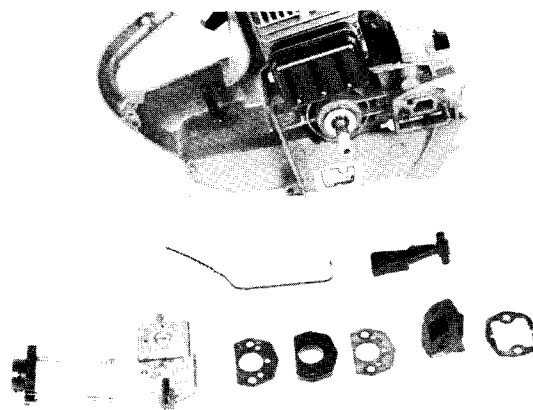

Fig. 12 — Carburetor and Reed Plate Removed
5. Remove air filters, carburetor, reed plate, throttle lever and linkage, Fig. 12.